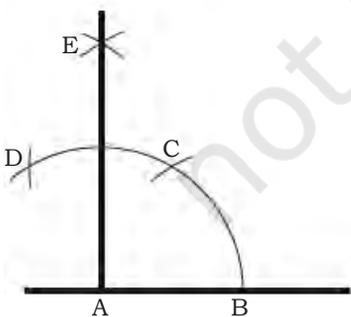

Fig. 1.10: Constructing an angle of 90°
- Angle EAB is of 90° (Fig. 1.10).